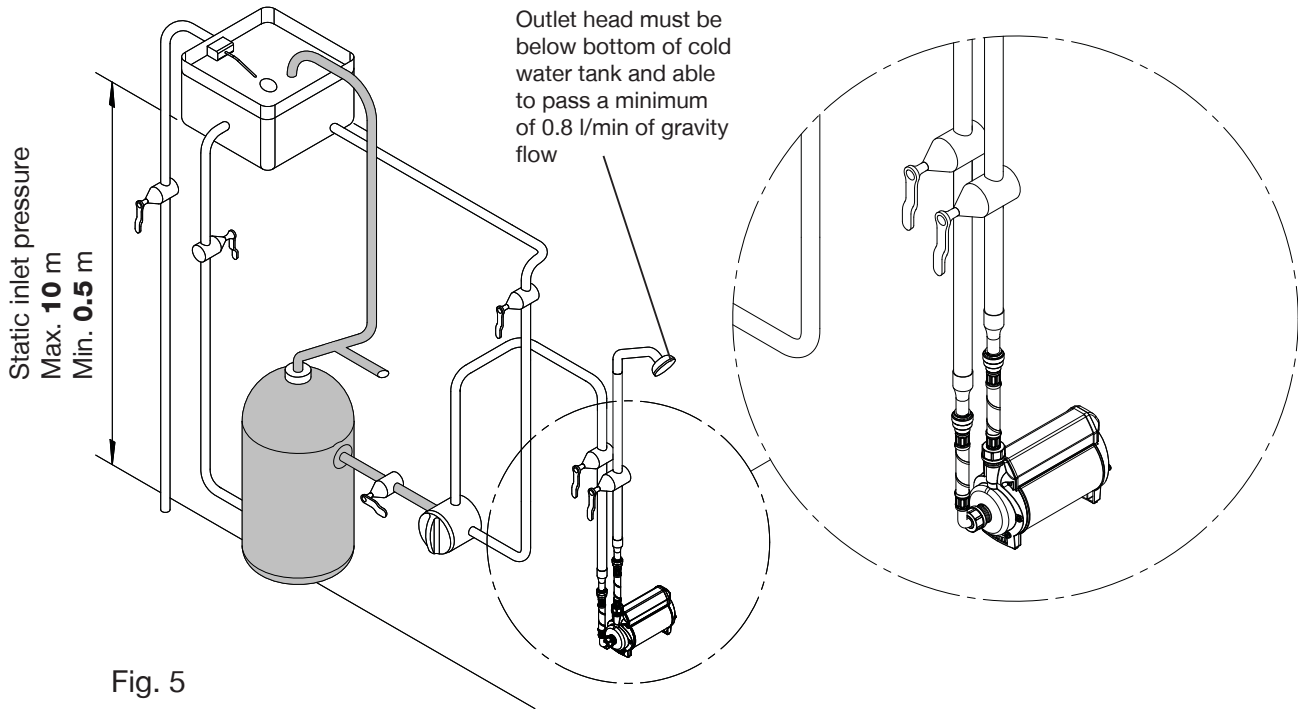

Fig. 5
- 2.16 **Static inlet pressure:** Before deciding where to locate the unit check to ensure the static inlet head between pump and cold water level (Figs. 5 & 6) is at least 0.5 metre and does not exceed the max inlet head of 10 metres.